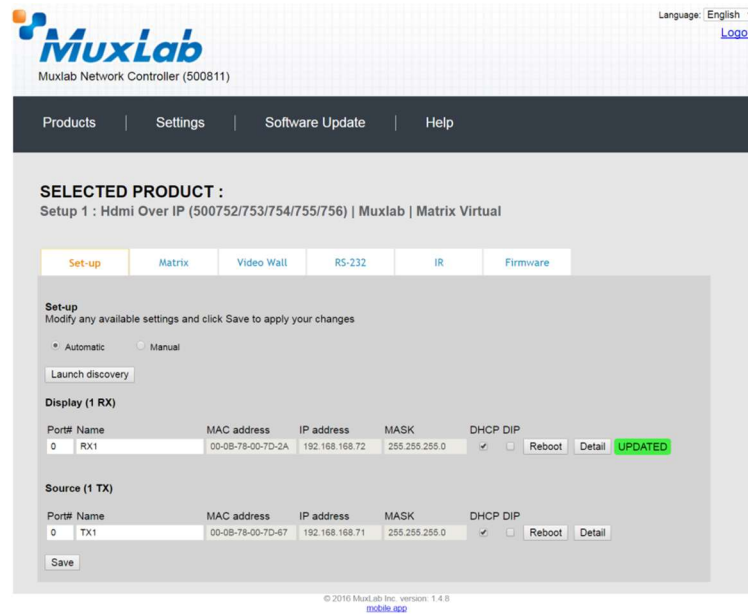

Figure 384: Saving Name Changes
Each 500755-AMP transmitter and receiver can be assigned an arbitrary descriptive name, normally reflecting the end device that it is terminated to. To change the name of any speaker sink (RX) or audio source (TX) device, click the **Name** field to edit its contents. Several **Name** fields can be edited before saving changes, as shown in Figure 384 (orange highlighted fields).